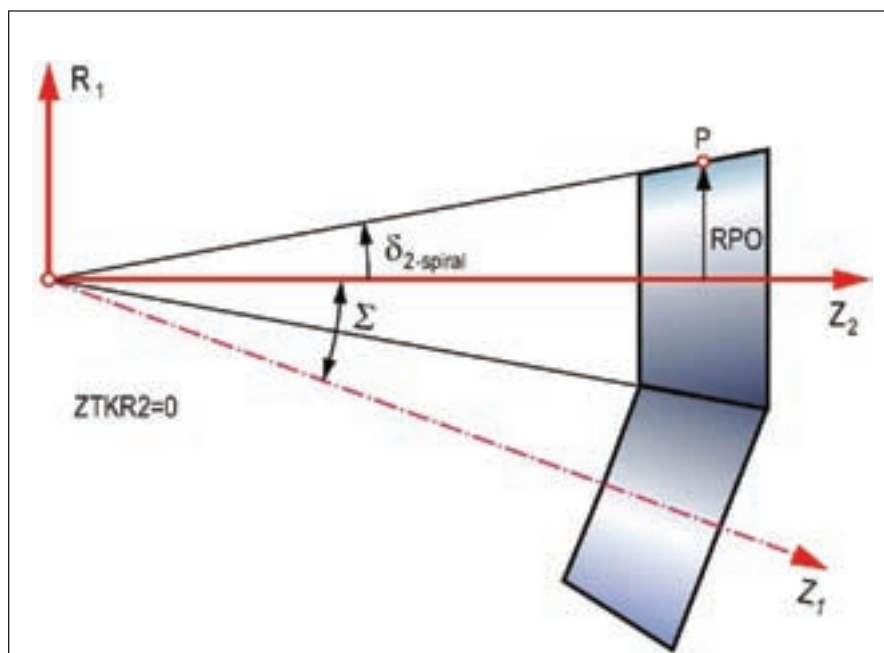

Figure 2—Spiral bevel gear cones.
1. The spiral bevel gear version has a pitch angle of $\delta_{2\text{-spiral}}$ and a distance crossing point to pitch cone (ZTKR2) of zero (Fig. 2).